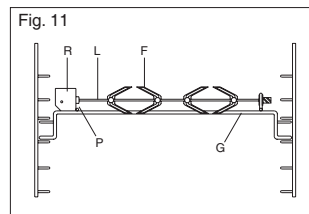

Fig. 11
- Thread the chicken or the cubes of meat for roasting on the spit **L**, ensuring that it is gripped safely between the two forks **F** and balancing it properly to avoid unnecessary strain on the transmission **R** (fig 11).
- Put the spit on the support **G**, after having introduced its opposite end in the socket **P** of the transmission **R** (fig 11)